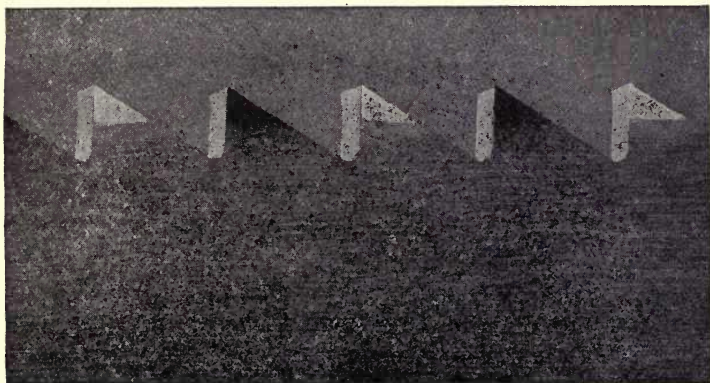

FIG. 197.—Enlarged View of Rip Teeth.
**484. Action of a Rip-Saw.**—The object of a rip-saw is to cut or saw lumber lengthwise with the grain. This type of saw has a different tooth action from that of the cross-cut saw. The tooth of the rip-saw (Fig. 197) has a straight front, and its cutting edge strikes (Fig. 198) the fiber of the wood at an angle of about  $90^\circ$ . It separates the fiber at one place only and the front of the tooth wedges out the piece of wood. This form of tooth does not sever the fibers because the line of the cutting edge runs lengthwise with the fiber, instead of across it. The saw does not